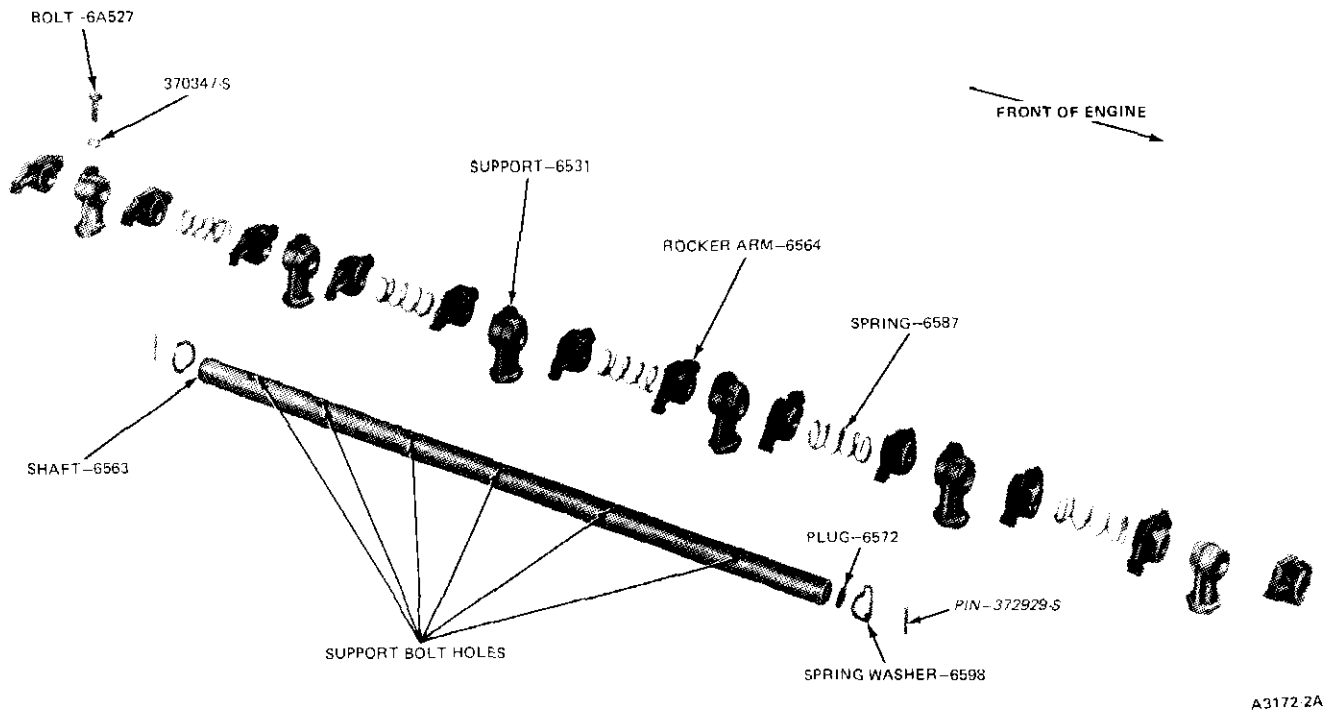

FIG. 33 Valve Rocker Arm Shaft Assembly
4. Install the valve rocker arms, supports, and springs in the order shown in Fig. 33. **Be sure the oil holes in the shaft are facing downward. Complete the assembly by installing the remaining spring washer and pin.**